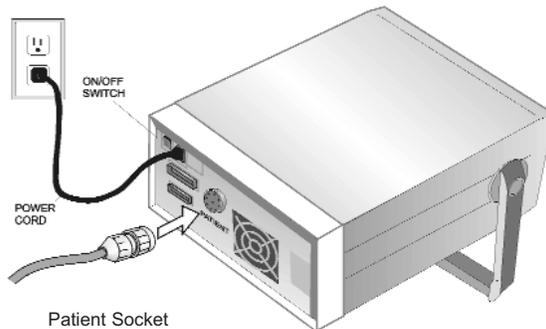

Figure 24 PBU Rear Panel (note Patient Socket)
- 2 Insure that the PBU is plugged in and turned on and the PBU cable is attached to the "Patient" socket on the back of the PBU (**Figure 24**).